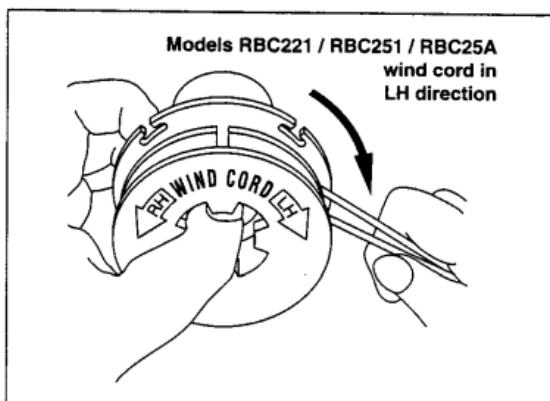

Fig. 25
3. Wind both ends firmly around the spool in the direction of the head rotation (Fig. 25).